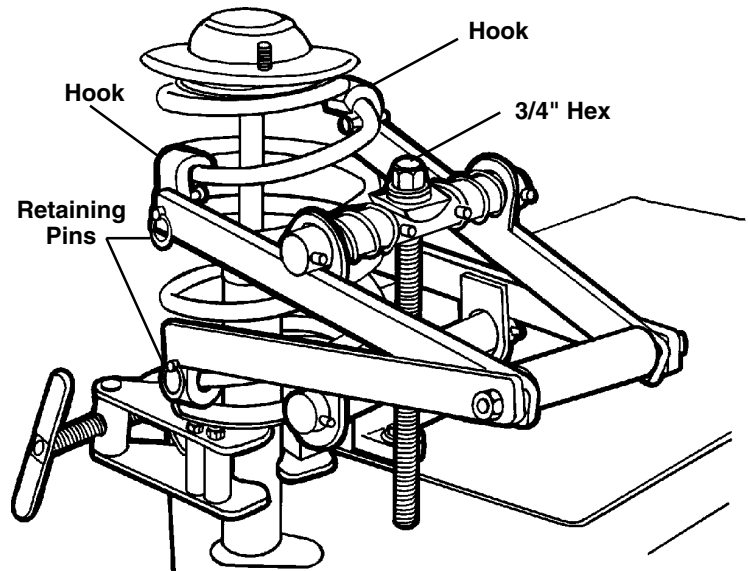

Figure 1
4. Place two hooks around a coil as close to the top of the spring as possible. **Note: The 3/4" hex on the forcing screw should be up.** Place the other two hooks as close to the bottom of the spring as possible. Push in the four retaining pins. See Figure 1.